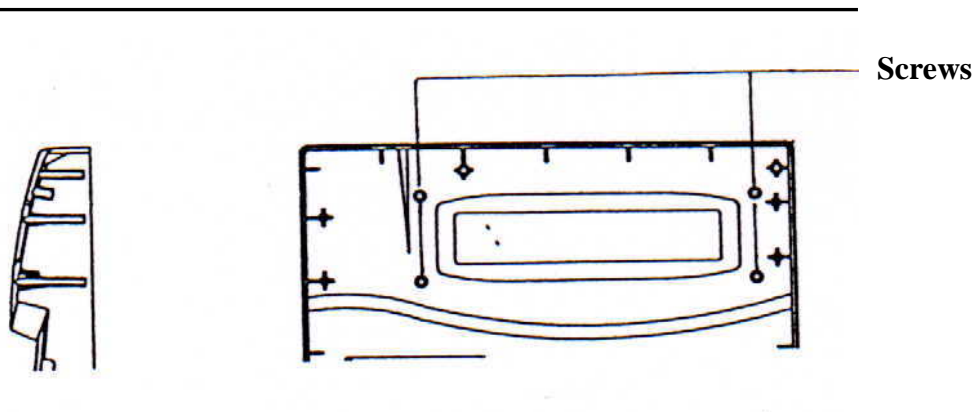

Figure 3-3. LCD Module Replacement 2.
6. Remove the four screws on the LCD module (Figure 3-3).
3. Install the four screws on the LCD module (Figure 3-3).